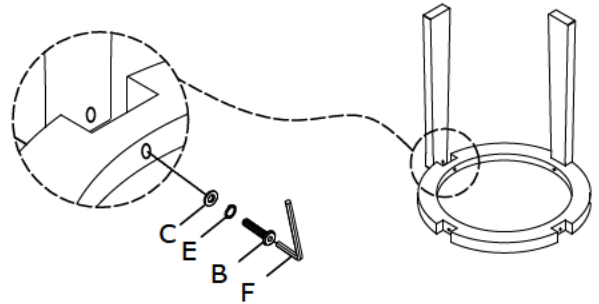

Figure 3
3. Attach the stretchers to the legs with Wood Dowel (A), Bolt (B), Lock Washer (E), Flat Washer (D) by Allen Wrench (F) as shown in Figure 3.